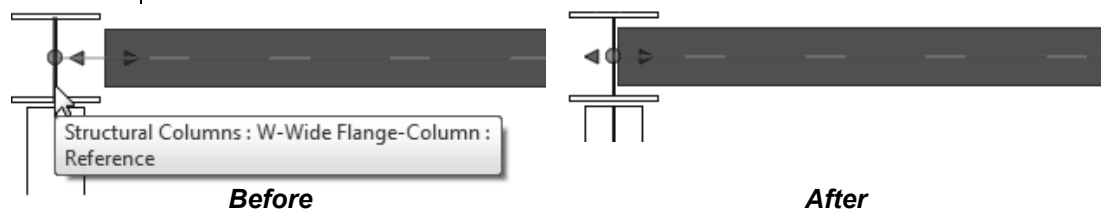

Figure 7–38
- The end of the framing, the member moves to the new reference location, as shown on the right in Figure 7–38.